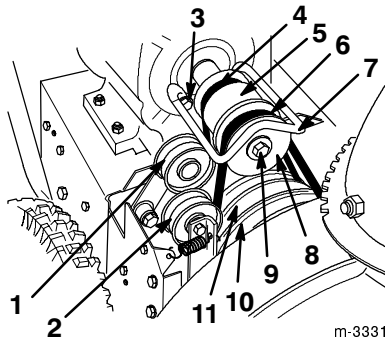

Figure 31
When the traction belt (Fig. 31) becomes worn, oil-soaked, or otherwise damaged, replace the belt. You can purchase a new belt from your Authorized Service Dealer.
5. Remove two screws, two washers, and two lock washers that secure the belt guide (Fig. 31).
6. Remove the engine crankshaft screw, lock washer, and washer (Fig. 31).
7. Separate and remove the engine pulley sheave (Fig. 31).
9. Remove the engine pulley (Fig. 31).
10. Remove the traction belt from the traction pulley and the engine crankshaft (Fig. 31).
11. Pull the traction idler pulley outward and install a new traction belt (Fig. 31).
Note: Make sure not to pinch the traction drive belt (Fig. 31).
13. Pull the idler pulley outward and loop the auger/impeller drive belt in front of the engine pulley, making sure that the belt is on the inside of the idler pulley (Fig. 31).
When the auger/impeller drive belt (Fig. 31) becomes worn, oil-soaked, or otherwise damaged, replace the belt.
8. Remove the auger/impeller drive belt (Fig. 31).
9. Pull the idler pulley outward and install a new belt around the large auger/impeller pulley (Fig. 31).
10. Loop the belt in front of the engine pulley, making sure that the belt is on the inside of the idler pulley (Fig. 31).